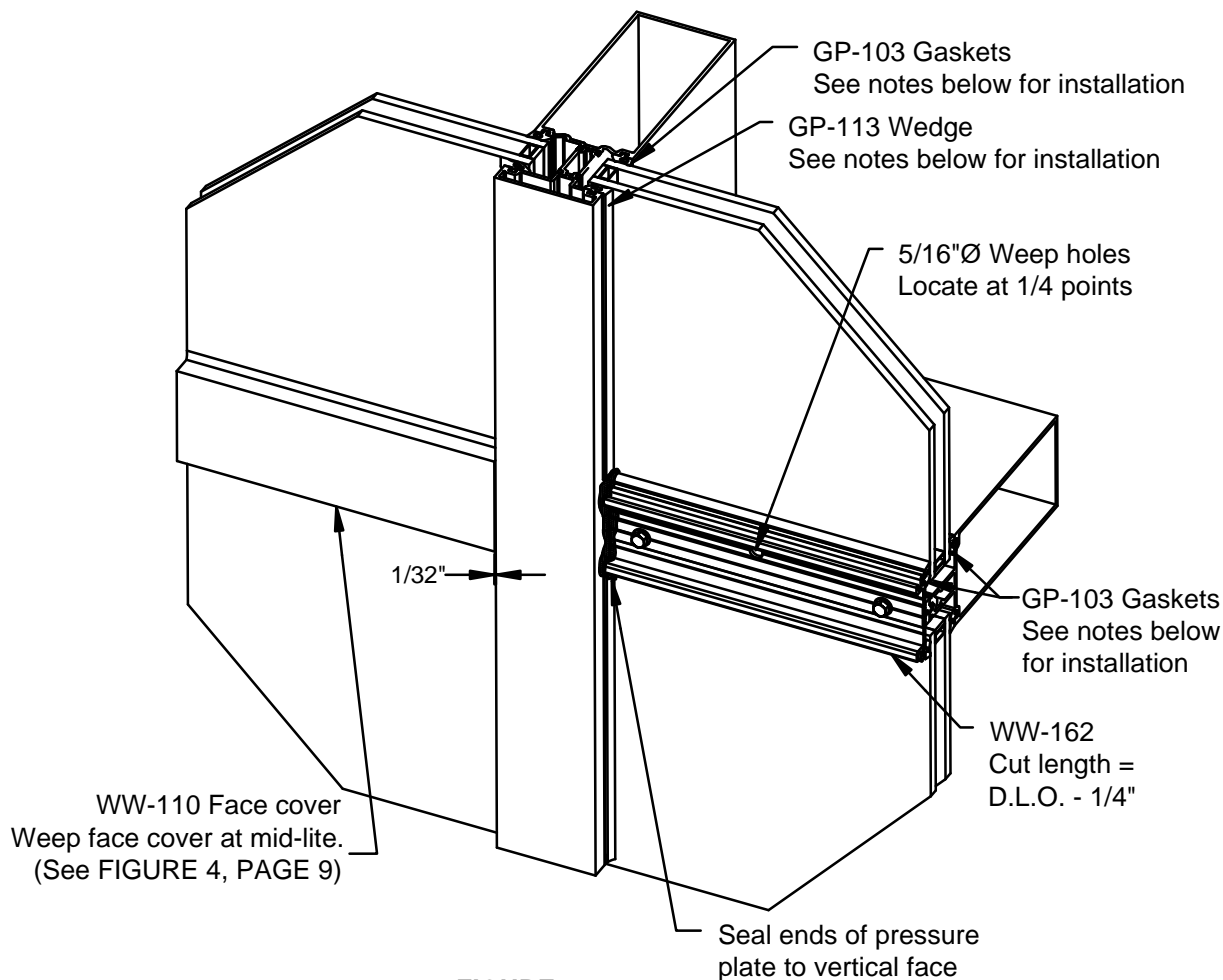

FIGURE 26
3.14 Seal ends of horizontal pressure plates to the verticals. Tool sealant into the joint. SEE FIGURE 26.